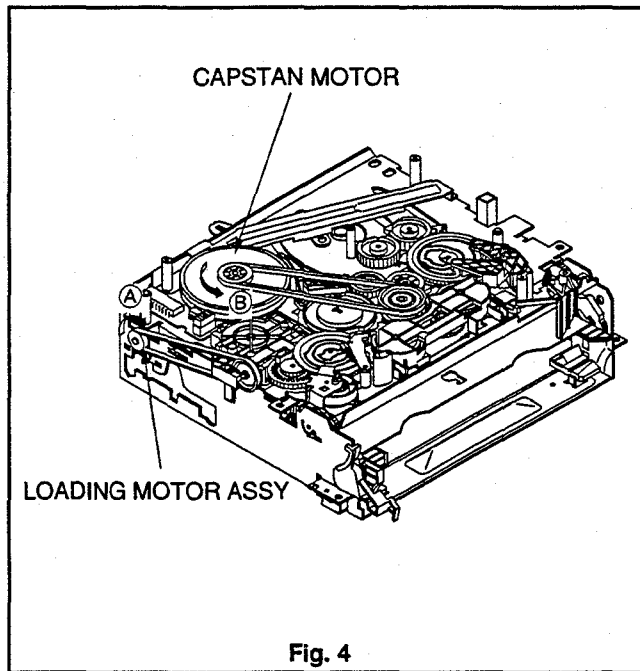

Fig. 4
3. If the TAPE GUIDE ASSY (TU) and TAPE GUIDE ASSY (SP) are in the Tape unlocked position, turn the LOADING MOTOR ASSY shown in Fig. 4 in the direction shown by arrow Ⓐ and move the TAPE GUIDE ASSY (TU) and TAPE GUIDE ASSY (SP) fully in the unloaded position.
4. Turn the CAPSTAN MOTOR shown in Fig. 4 in the direction shown by arrow Ⓑ to wind the Tape up within the Cassette.
5. Turn the LOADING MOTOR ASSY shown in Fig. 4 in the direction shown by arrow Ⓐ to eject the Tape.